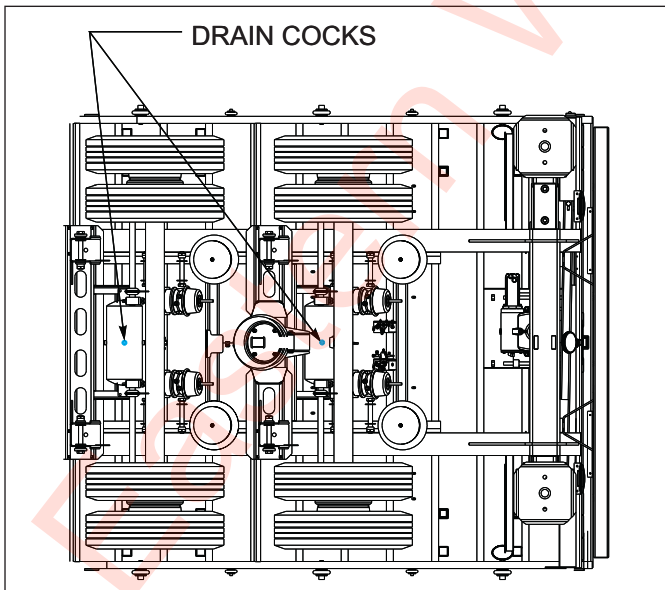

Figure 4-9: Drain Cock Locations
4. Drain air reservoir daily. A drain cock on the bottom of each air reservoir vents the tank to drain collected water and oil. If held open, air pressure in the tanks is relieved, causing the emergency or parking brakes to be applied (*See Figure 4-9*). The drain cocks on your Landoll Bottom Dump have a pull loop routed from drain cock to allow easy access.